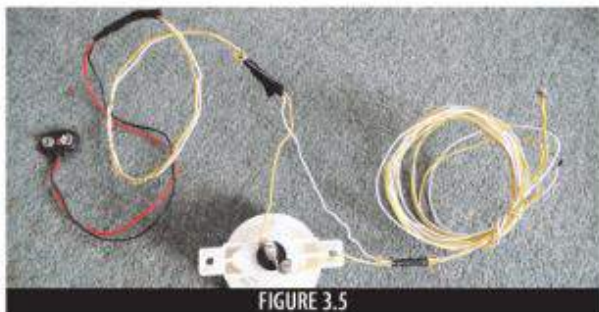

FIGURE 3.5
2. The yellow wire that is going from the battery connector to the receiver is cut in the middle. One end of the wire is connected to the screw and the other is connected the metal rod protruding from the knob. The timer in this configuration serves as a terminator of the circuit. Refer to Figure 3.5 below.
3. Connect the wires as shown in Figure 3.5 (white is negative (-) and yellow is positive (+)). Notice that the cut must be in the positive (+). That is because the negative (-) charge could be delivered by a multitude of objects – such as friction – and this could cause accidental detonation. Therefore it should be wrapped with duct tape.